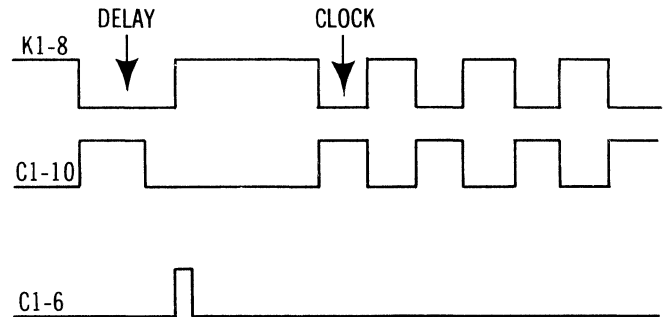

Figure 3-11 Font Clock Adjustment
3. Adjust R8 on Logic Board C for a 80- μ s pulse width (See Figure 3-11).